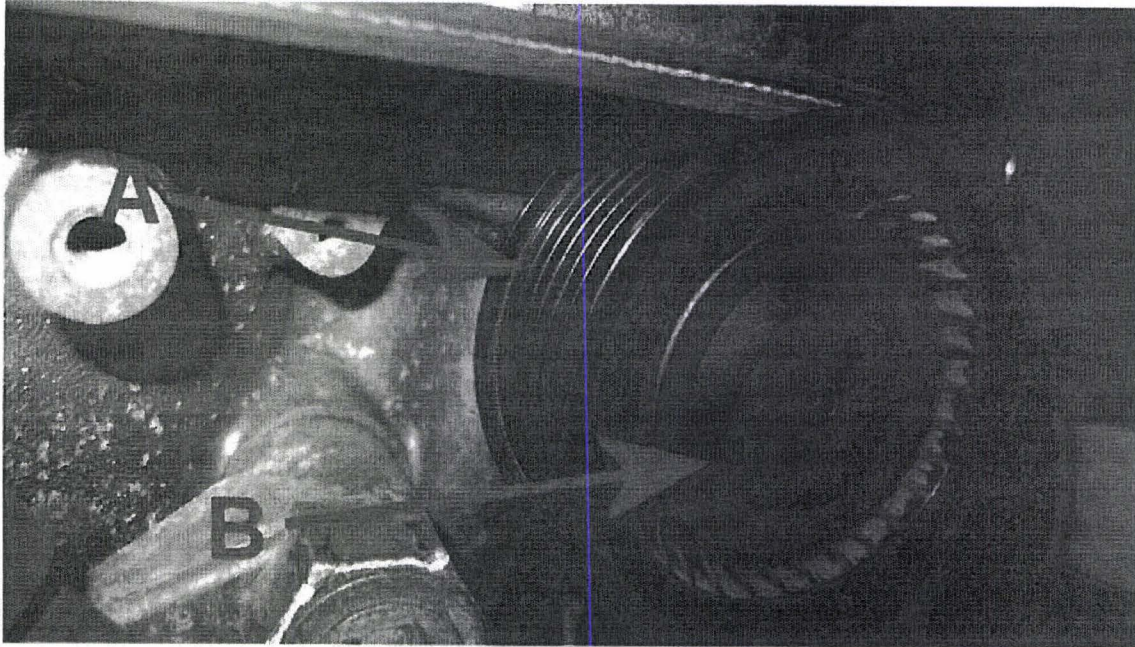

Figure 2
- The original specification single row pulley can be identified as it has a grooved belt running surface (Figure 2 point A) and also a shallow cone shaped dust cap (Figure 2 point B)